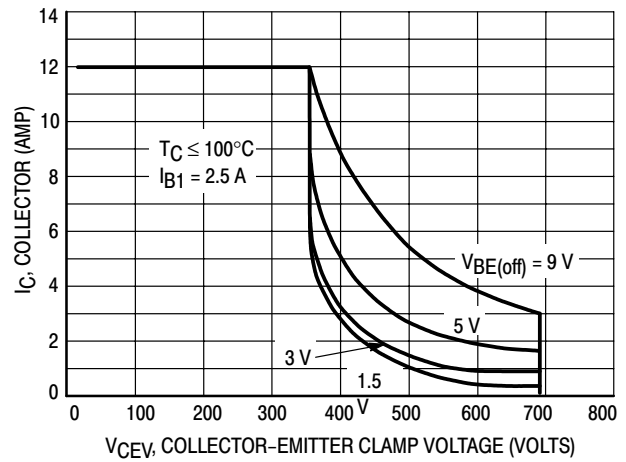
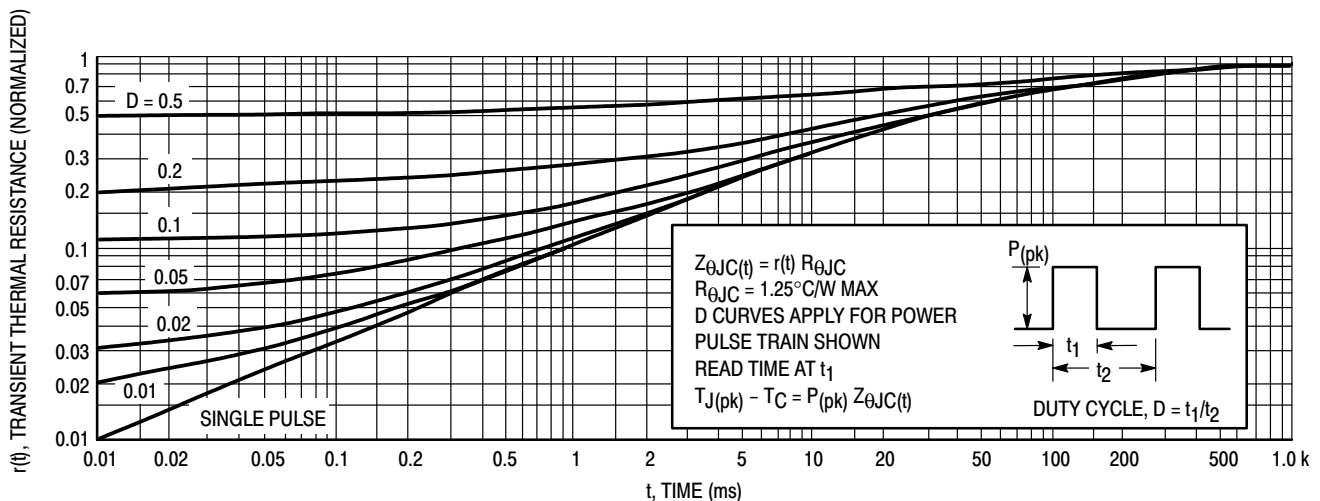

Figure 2. Reverse Bias Switching Safe Operating Area
Figure 4. Typical Thermal Response [ $Z_{\theta JC}(t)$ ]
$T_{J(pk)}$  may be calculated from the data in Figure 4. At high case temperatures, thermal limitations will reduce the power that can be handled to values less than the limitations imposed by second breakdown. Use of reverse biased safe operating area data (Figure 2) is discussed in the applications information section.
For inductive loads, high voltage and current must be sustained simultaneously during turn-off, in most cases, with the base to emitter junction reverse biased. Under these conditions the collector voltage must be held to a safe level at or below a specific value of collector current. This can be accomplished by several means such as active clamping, RC snubbing, load line shaping, etc. The safe level for these devices is specified as a Reverse Bias Safe Operating Area (Figure 2) which represents voltage-current conditions that can be sustained during reverse biased turn-off. This rating is verified under clamped conditions so that the device is never subjected to an avalanche mode.
3. The base drive conditions are within the specified limits shown on the Reverse Bias SOA curve (Figure 2).